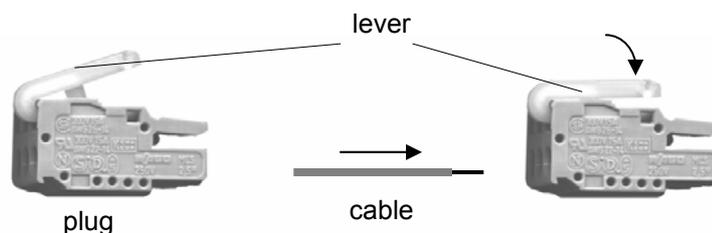

Fig. 35 Assembling plus
2. Press the lever down as indicated by the arrow in Fig. 35.